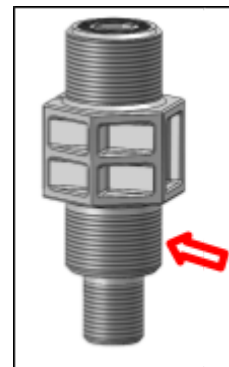

Figure 36.
7. Apply Teflon tape to the injector: Wrap a few turns of Teflon tape around the injector's threads. This ensures a watertight connection. See Figure 36.